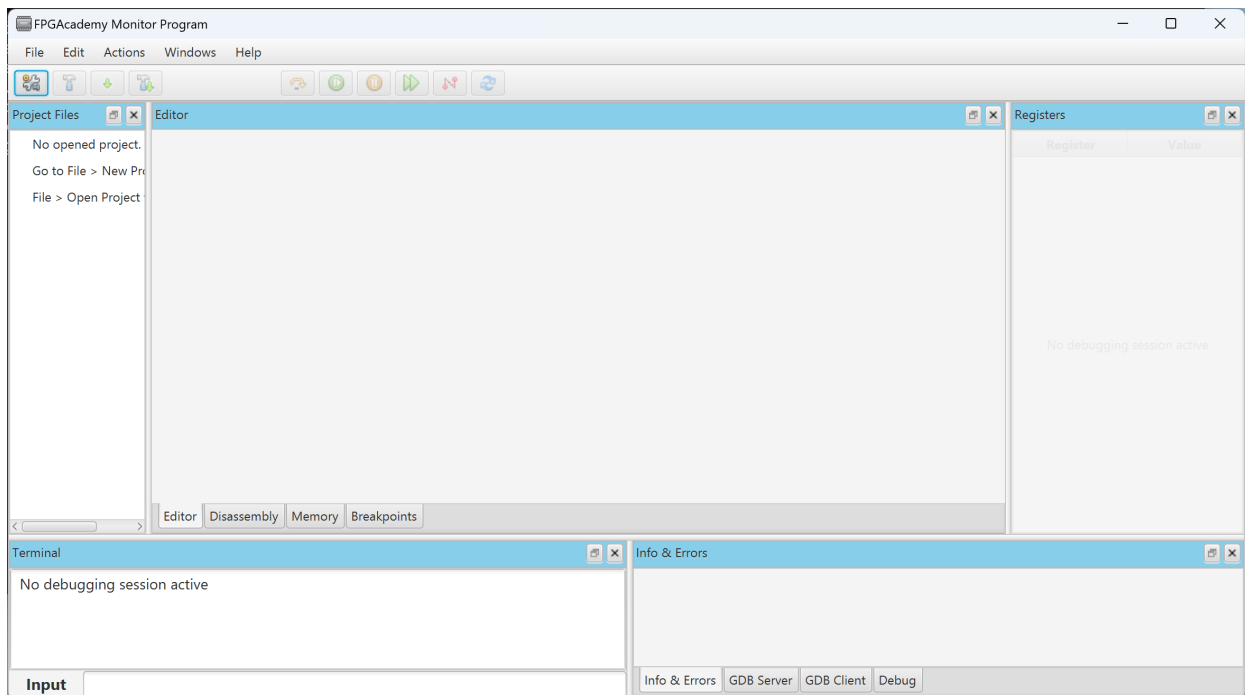

Figure 13: The *Monitor Program* window.
2. Open the *Monitor Program* software, which leads to the window in Figure 13.